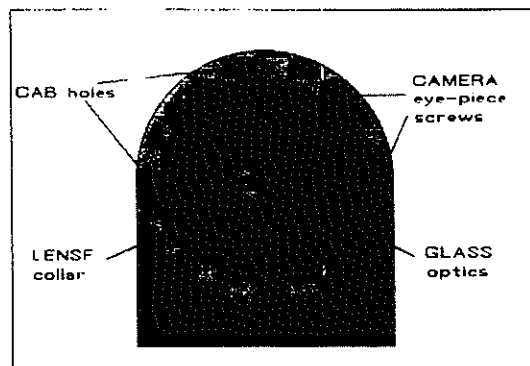

Figure 7
E. Screw the 4 large screws into the holes on the camera identified as the CAB holes (refer to Figure 7).